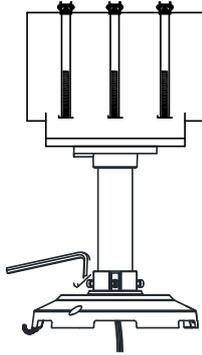

Figure 1-25 Installing Head Cover of PanoVu Camera
- 1) Loosen the two lock screws and make sure that the screws do not appear in the inner side of bracket, as shown in Figure 1-25.